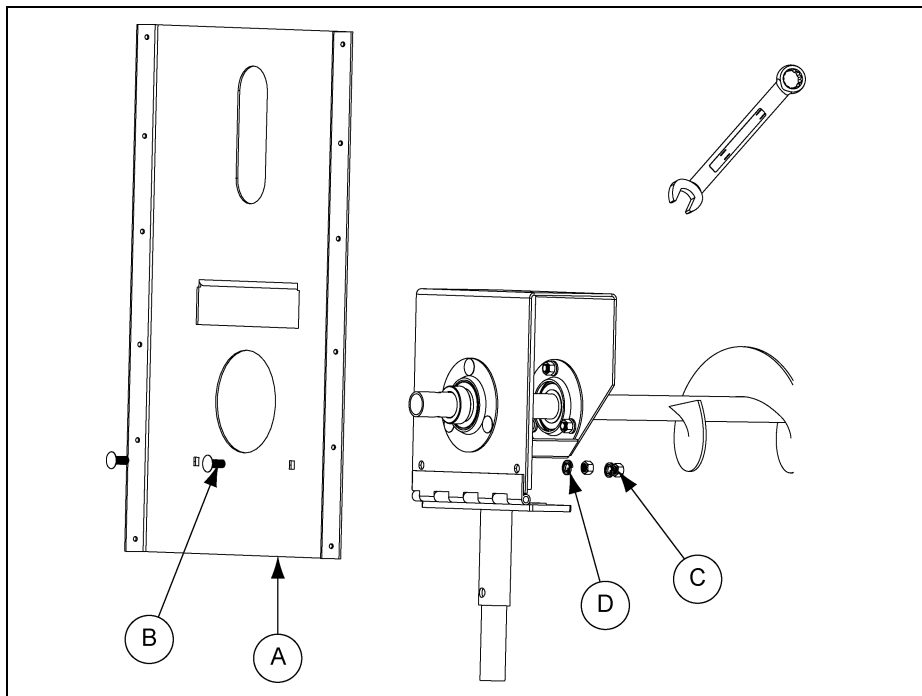

Figure 4D
Step 4: Fit guard back plate. (See Figure 4D.)